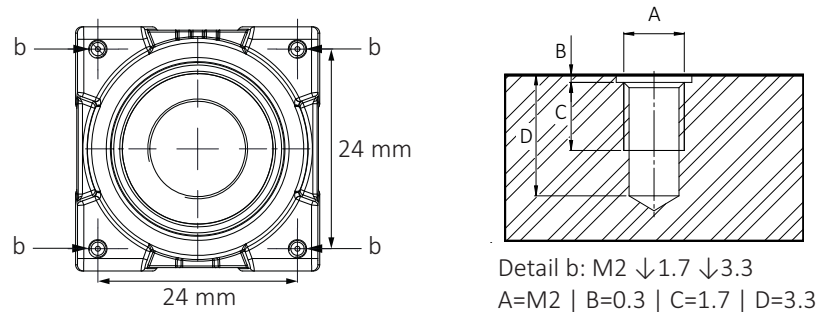

Figure 42: Camera front with mounting threads (c)
1. Mount the camera to the base using suitable M2 screws at 0.17 Nm maximum torque for a thread engagement (C) of 1.7 mm between screws and mounting threads, see Figure 42. For technical drawings, see Dimensions and mass on page 92.